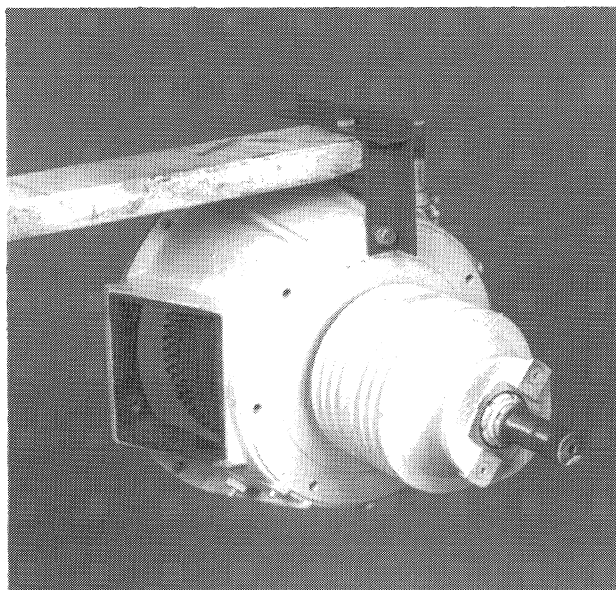

FIGURE 2-6
8. MODELS 1900/2100 - Install the special removal bracket, Figure 2-5, as shown in Figure 2-6.